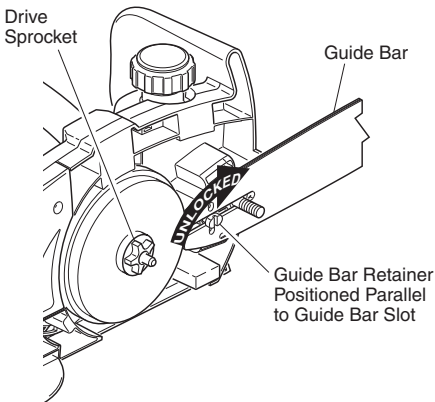

Figure 4 - Unlocking Guide Bar Retainer
3. Rotate guide bar retainer so that it is positioned parallel to guide bar slot (see Figure 4).
4. Install guide bar onto saw body. Assemble center slot of guide bar onto guide bar bolt and guide bar retainer. *Note:* Make sure the head of the guide bar retainer slides through the guide bar slot as shown in Figure 4.